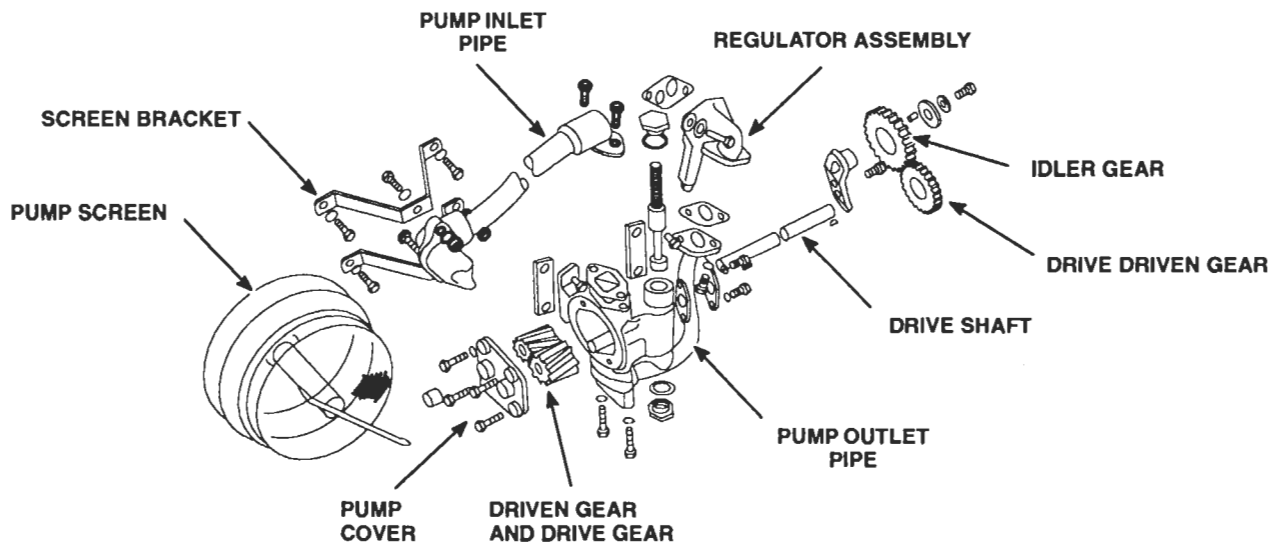

Figure 3. Oil Pump Components
8. Remove the valve plugs and copper gaskets from each side of the pump body and jar the relief valve parts from the body (Figure 3.)